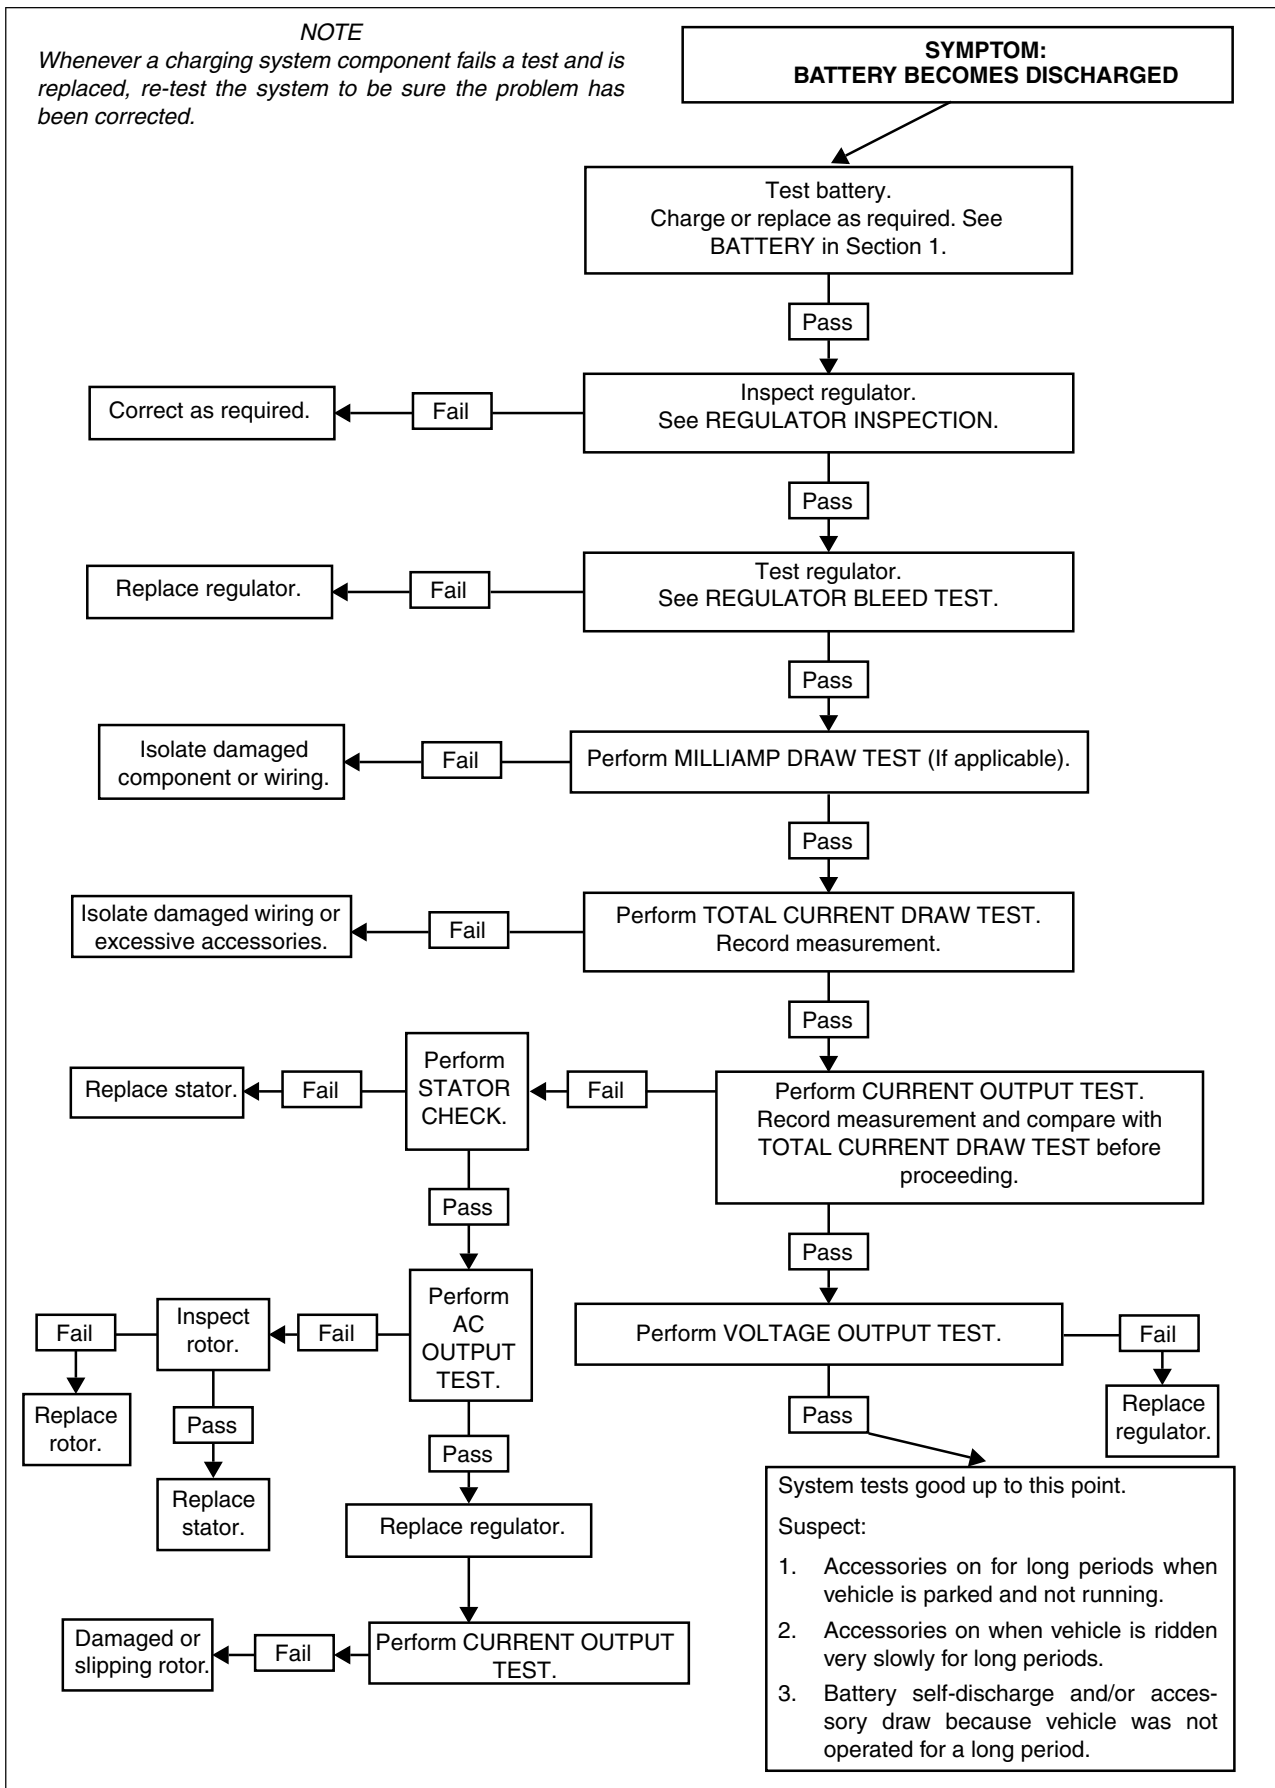

Figure 7-37. Charging System Troubleshooting
- a. If voltage to the battery is not more than 15 VDC, voltage output is within specifications. Investigate other possible problems. See Figure 7-37.